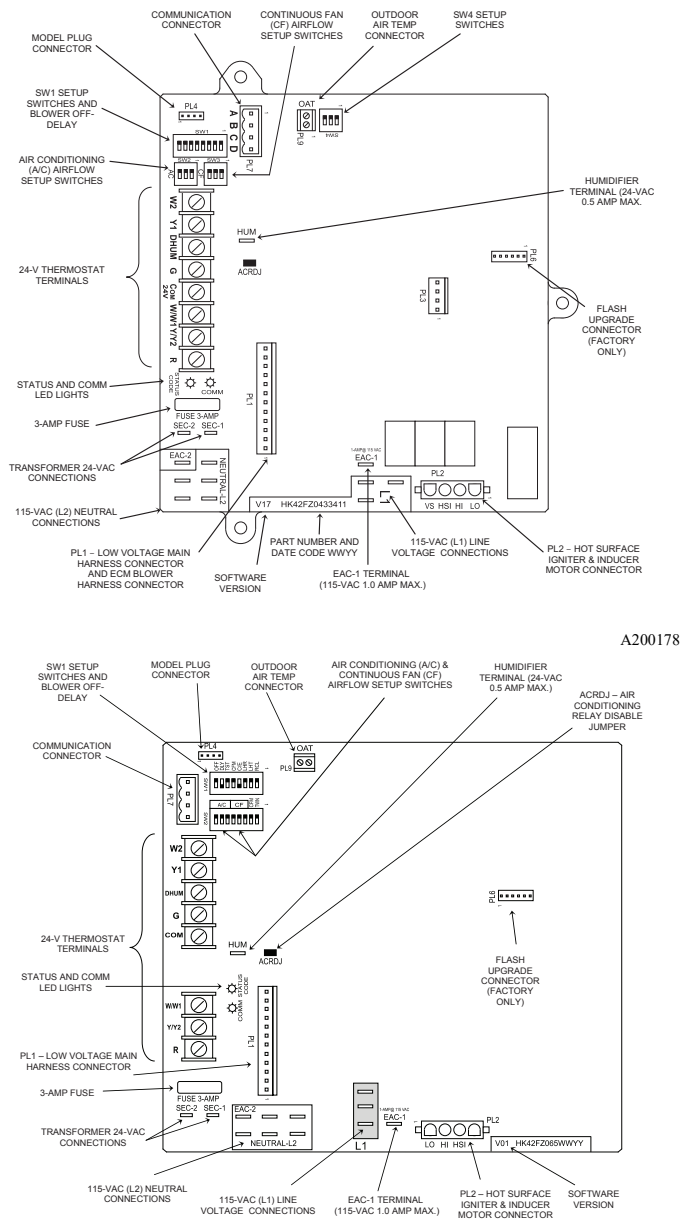

Fig. 21 – Example of Variable Speed Furnace Control for ECM (VCA) Blower Motor
1. Turn Setup Switch SW1-2 on furnace control ON, see Fig. 21.